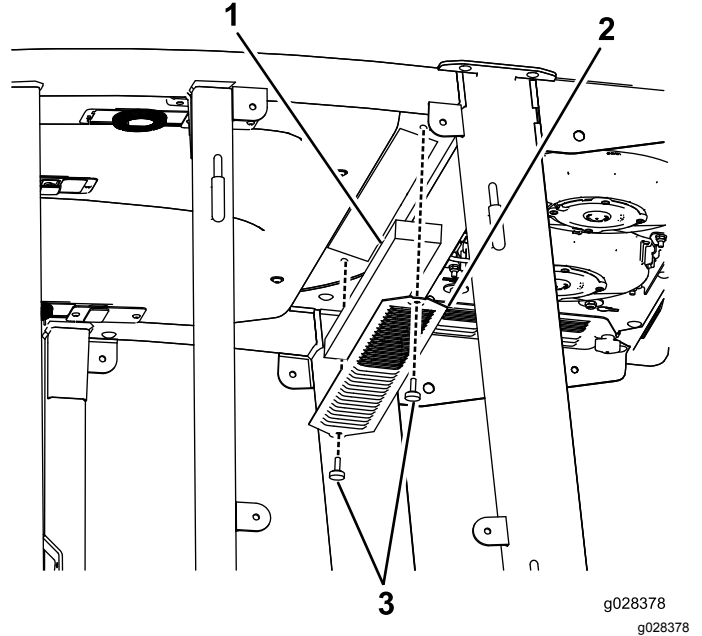
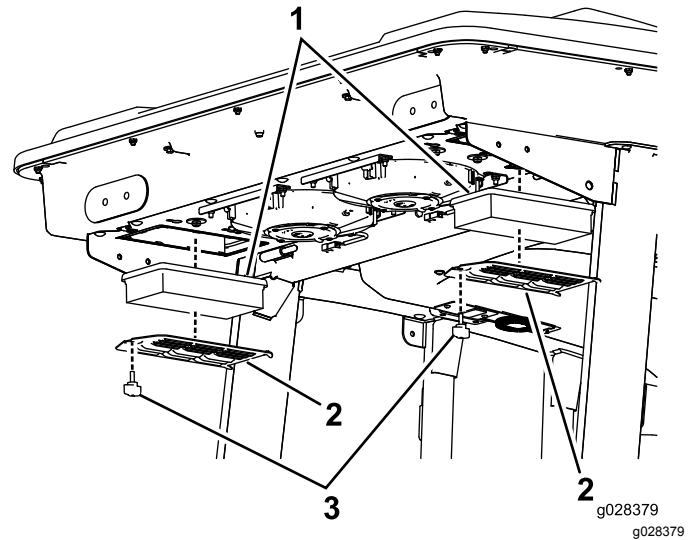
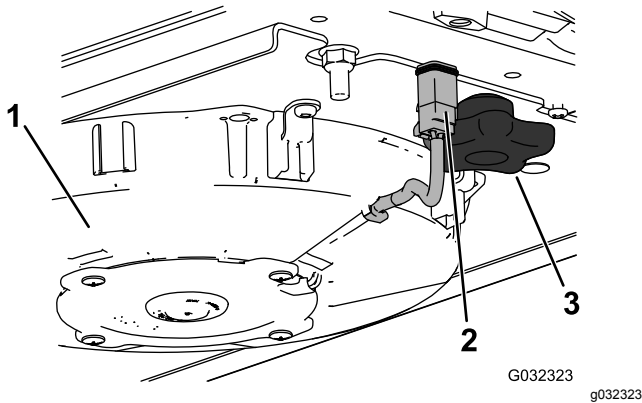
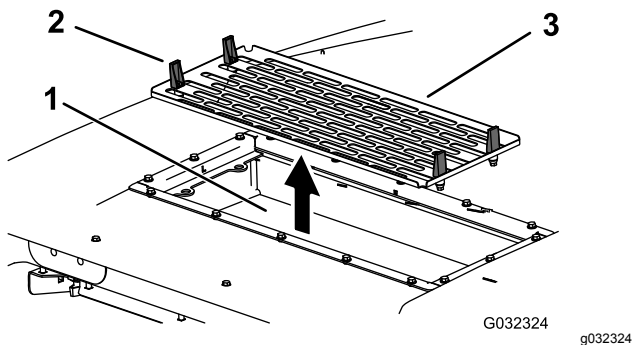

Figure 115
Figure 116
Figure 117
Figure 118
1. Remove the screws and grates from both the in-cab and rear cab air filters (Figure 115 and Figure 116).
5. Remove the air filters (see Figure 116).
7. Install the air filters, screen, and fan assembly (Figure 116, Figure 117, and Figure 118).
8. Connect the wire for each fan (Figure 117).